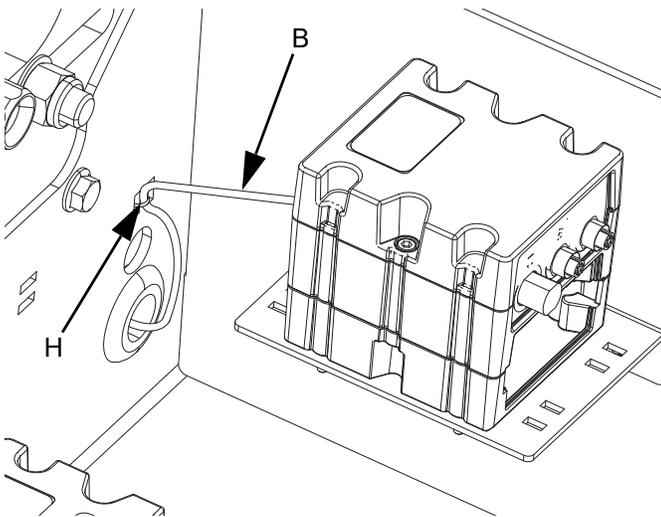

FIG. 5
7. Connect the red inlet transducer cable to connector seven on the inlet transducer monitor (A), and connect the blue inlet transducer cable to connector six on the inlet transducer monitor (A).
8. Connect the CAN cable (B) from either CAN connection on the inlet transducer monitor (A) to CAN connector 1 or 2 found on the motor.
9. Secure the CAN cable (B) to the frame using the cable ties (H) provided, and route it through the protected opening as shown in FIG. 5.
10. Re-install the pump yoke shroud (J) and frame cover (K) onto the EFR system.